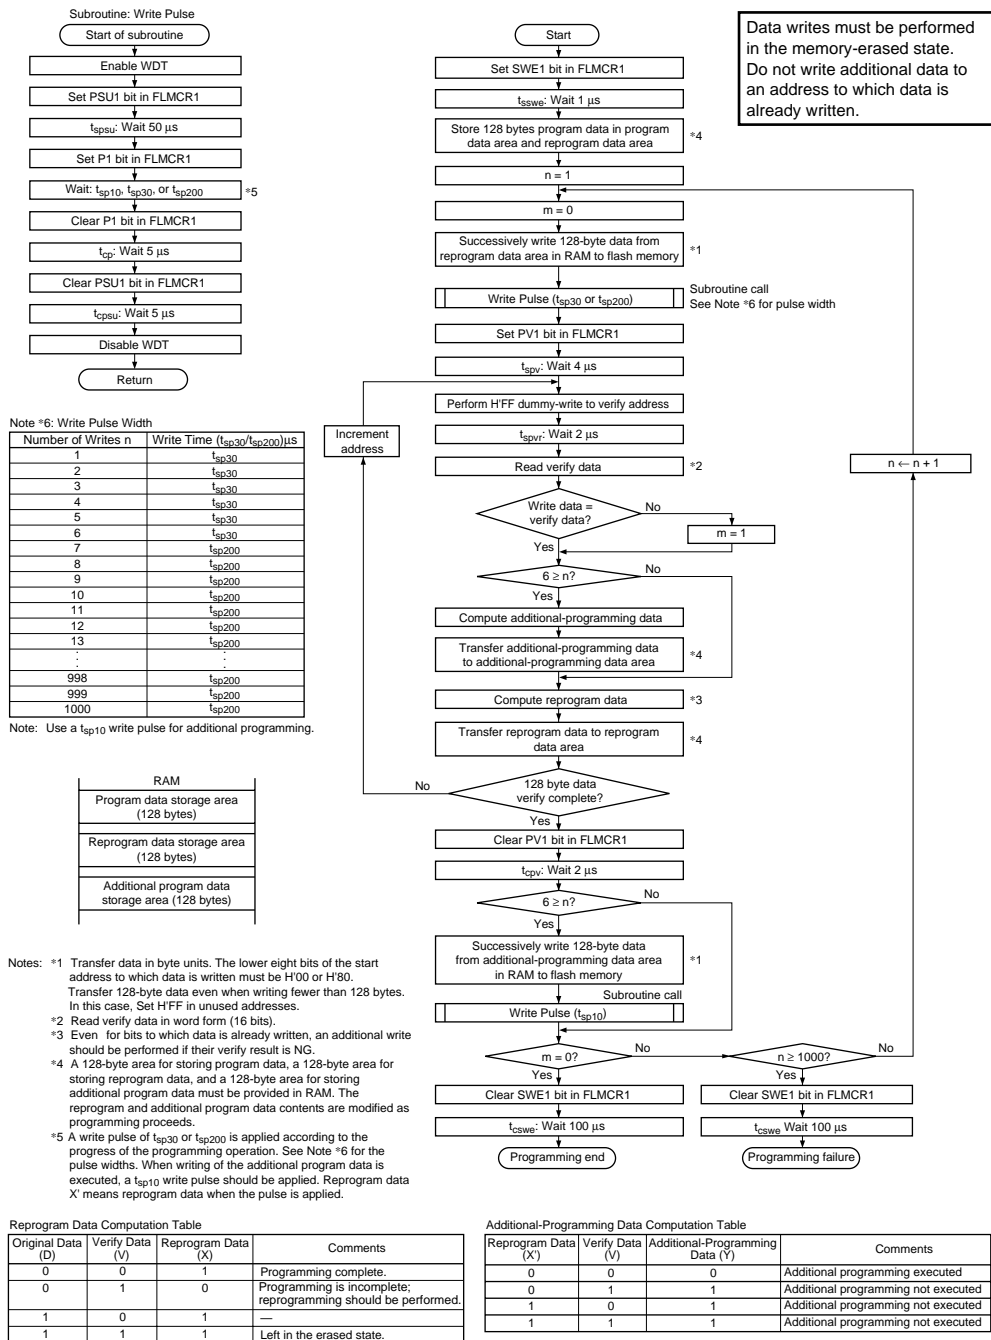

Figure 19-11 Program/Program-Verify Flowchart
After the elapse of a given programming time, the programming mode is exited (the P1 bit in FLMCR1 is cleared, then the PSU1 bit is cleared at least (t_{cp}) μ s later). The watchdog timer is cleared after the elapse of (t_{cpsu}) μ s or more, and the operating mode is switched to program-verify mode by setting the PV1 bit in FLMCR1. Before reading in program-verify mode, a dummy write of H'FF data should be made to the addresses to be read. The dummy write should be executed after the elapse of (t_{spv}) μ s or more. When the flash memory is read in this state (verify data is read in 16-bit units), the data at the latched address is read. Wait at least (t_{spvr}) μ s after the dummy write before performing this read operation. Next, the originally written data is compared with the verify data, and reprogram data is computed (see figure 19-11) and transferred to the reprogram data area. After 128 bytes of data have been verified, exit program-verify mode, wait for at least (t_{cpv}) μ s, then clear the SWE1 bit in FLMCR1 to 0. If reprogramming is necessary, set program mode again, and repeat the program/program-verify sequence as before. However, ensure that the program/program-verify sequence is not repeated more than (N) times on the same bits.